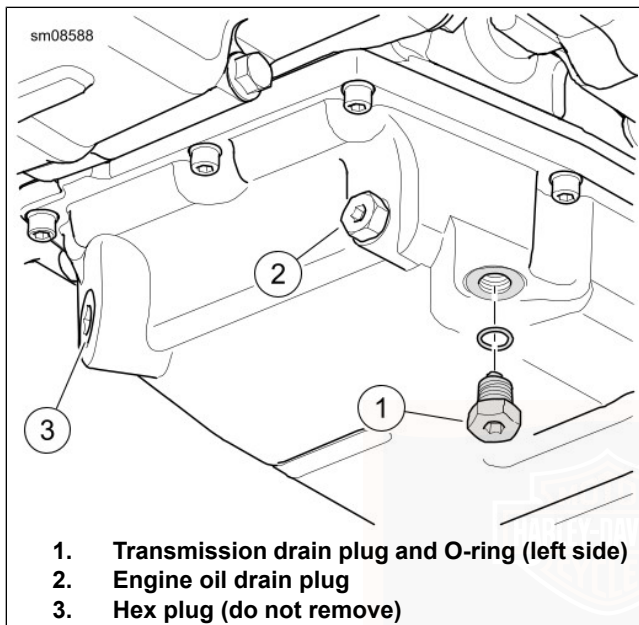

Figure 96. Transmission Drain
2. See Figure 96. Remove transmission drain plug. Drain transmission.